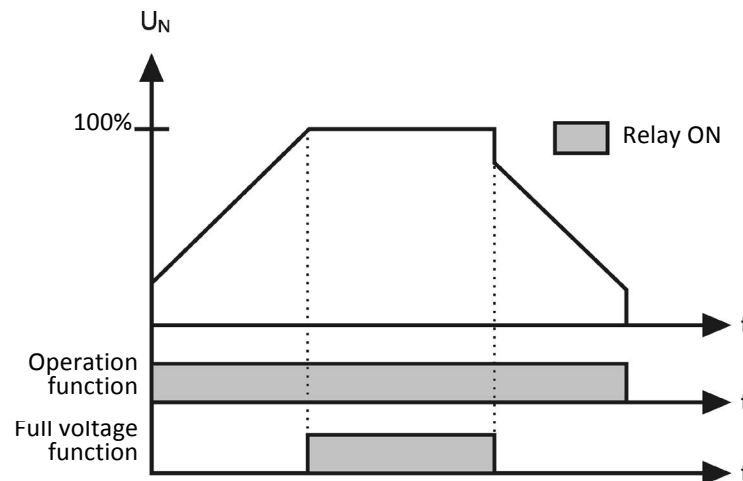

Figure 5.9: “Operation” and “Full Voltage” functions
- 1) “Operation” function – the relay is instantly switched on with a Soft-Starter start command. It is only switched off when the Soft-Starter receives a stop command (P04=Off), or by ramp when the voltage reaches 30% UN (P04=Off). Shown in figure 5.9.
- 2) “Full Voltage” function – the relay is only switched on after the Soft-Starter reaches 100%. It is switched off when the Soft-Starter receives a stop command. Shown in figure 5.9.